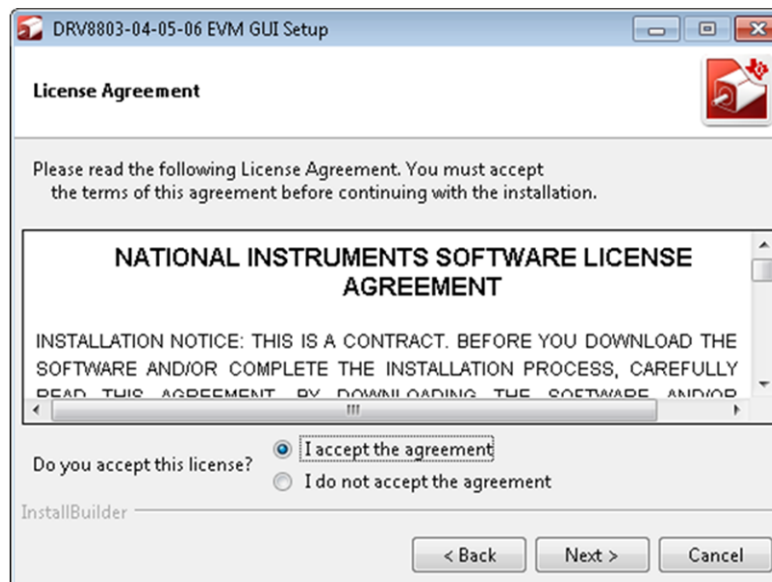

Figure 9. NI License Agreement
4. A screen as shown in Figure 9 appears, displaying the license agreement of National Instruments. Please read through the agreement carefully and enable the “I Accept the License Agreement” radio button and press the **Next** button.